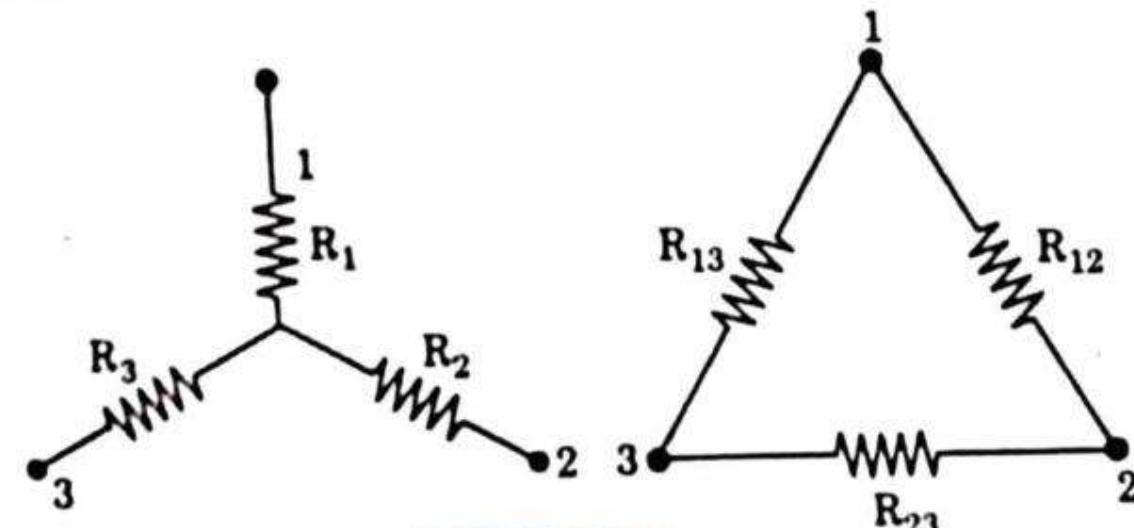

Fig. 1.13.2.
1. Consider $Y - \Delta$ connections as shown in Fig. 1.13.2.
4. If the Y -connection drawn in Fig. 1.13.2 is equivalent to the Δ -connection, eq. (1.13.8) and (1.13.9) must be equal.